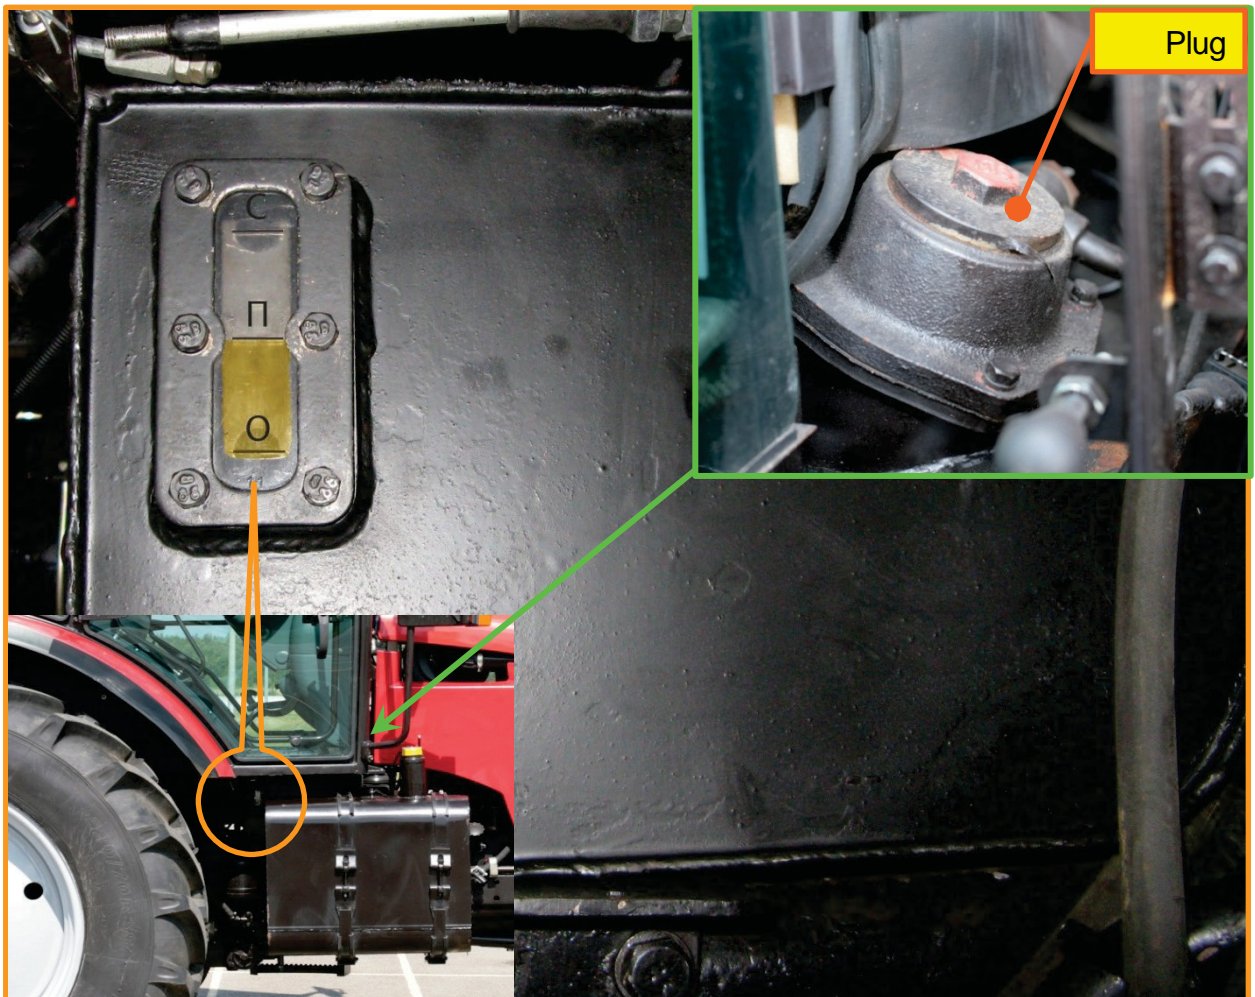

Figure 8.5
**Procedure 4. Checking the Oil Level in the HPS Oil Reservoir (fig. 8.5)**